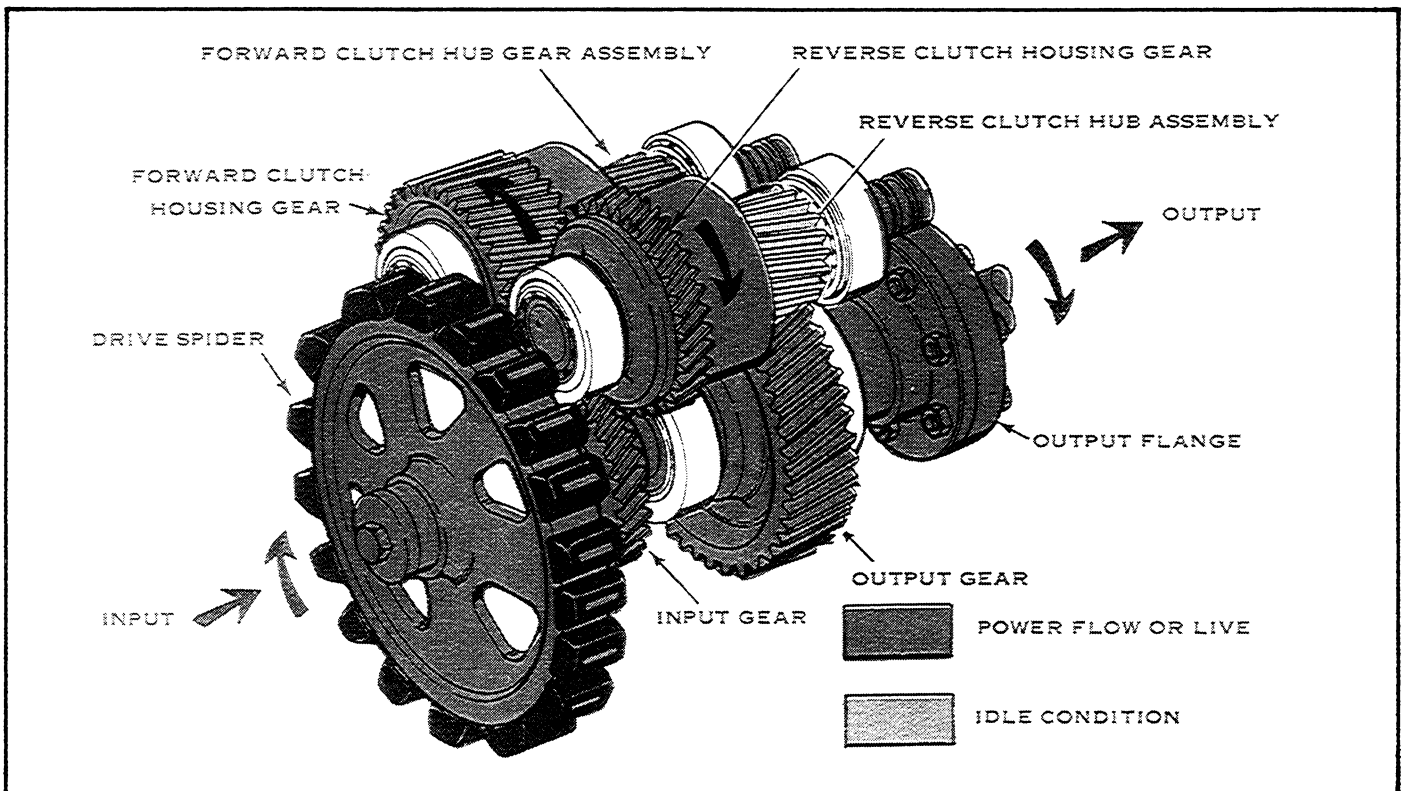

Figure 3-2. Model MG-506-1 Marine Transmission Power Flow — Forward — Schematic View.
2. **Forward.** See Figure 3-2. When forward clutch is selected, all the marine transmission parts which were turning during neutral selection are still turning. However, when forward is selected, the forward clutch faced and metal plates are clamped together by the clutch piston and back plate. The internal teeth of the steel clutch plates are meshed with the smaller diameter external teeth of the clutch hub pinion assembly and turn the pinion gear at engine speed and in anti-engine direction. The larger external gear teeth of the pinion gear are in constant mesh with the output gear which is keyed to the output shaft. The output flange is spline-connected to the output shaft and, therefore, the flange rotates in engine direction when in forward. The output shaft and flange rotate at a speed that is reduced from the engine speed due to the ratio between the pinion gear and the output gear.